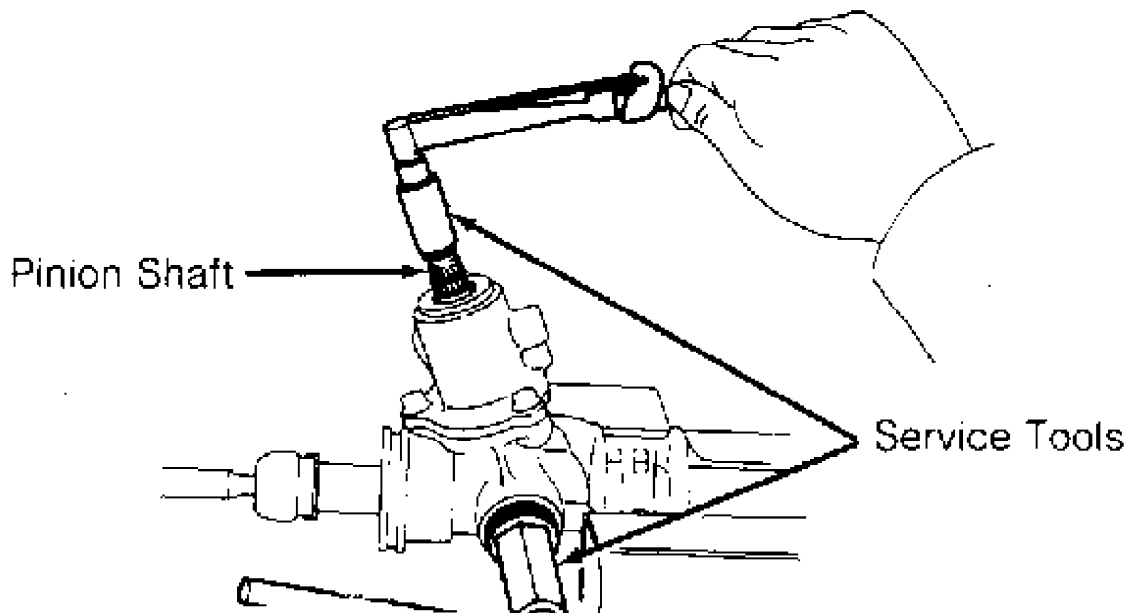

Fig. 7: Setting Rack & Pinion Total Preload
5) Apply Loctite 242 sealant to 2 or 3 threads of bearing guide nut. Install and tighten bearing guide nut to 11 ft. lbs. (15 N.m). Loosen guide nut until rotating torque is 3.5-5.3 INCH lbs. (0.4-0.6 N.m). See Fig. 7.